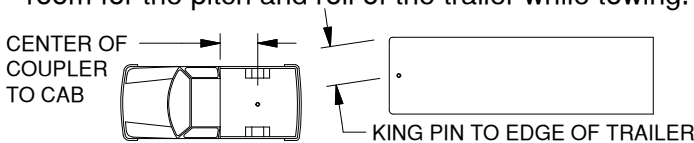

Figure C2: Truck and Trailer
- Evaluate clearance.** Determine if there is clearance between each truck and trailer combination before towing. Measure from the center of the coupler to the cab of the truck and from the king pin or pivot point of the trailer to the furthest forward corner of the trailer, see Figure C2. Compare these measurements to ensure proper clearance when towing. Also, inspect the clearance between the bed sides and the underside of the front of the trailer to ensure there is room for the pitch and roll of the trailer while towing.